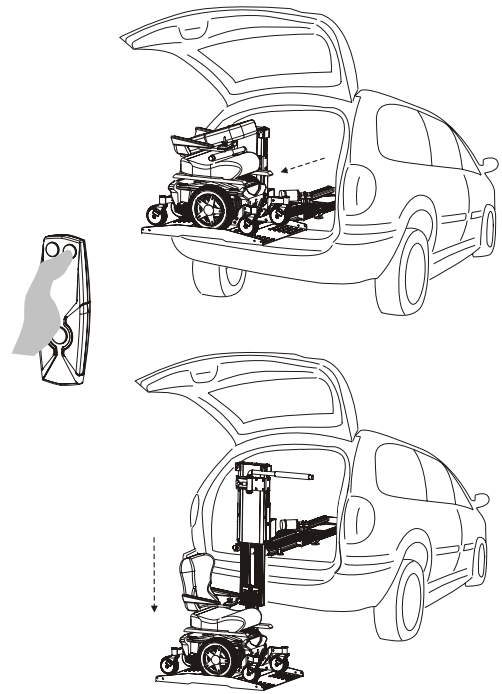

Figure 3-13
1. Open the rear cargo door. Double-check that the mobility device did not shift during travel and is properly secured onto the platform. Stand to the side of the vehicle and press the “Down” button until the lift reaches the ground. *See Figure 3-13.*